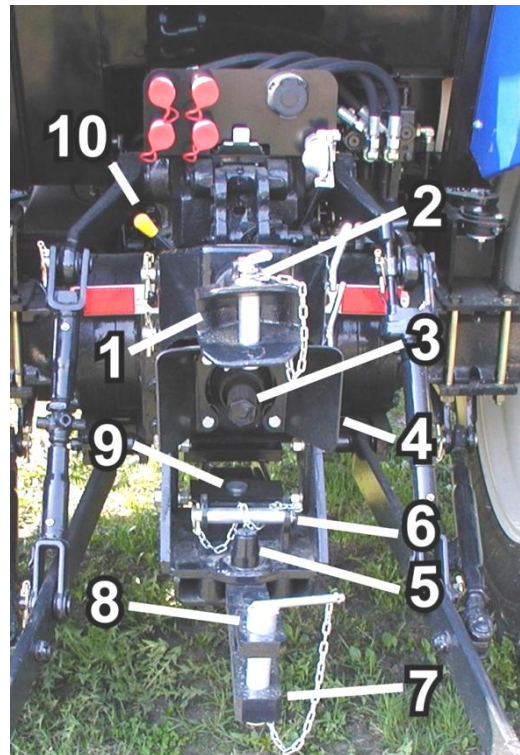

Fig. 4.6.2. Hitches
- shift the upper transport hitch to top position (1 - Fig. 4.6.2),
- remove the drawbar (7 - Fig. 4.6.2) after putting out pins (9 - Fig. 4.6.2),
Tractor drawbar (7 - Fig. 4.6.2) – is used for hitching trailed machines and implements. The distance of its hitch points to the PTO shaft end is 400 mm, thus enabling attachment of PTO driven machines and implements. The height of the drawbar hitch point can be changed by inverting the drawbar or by repositioning the clevis.
Lower transportation hitch (5 - Fig. 4.6.2) – is used for hitching single-axle trailer.